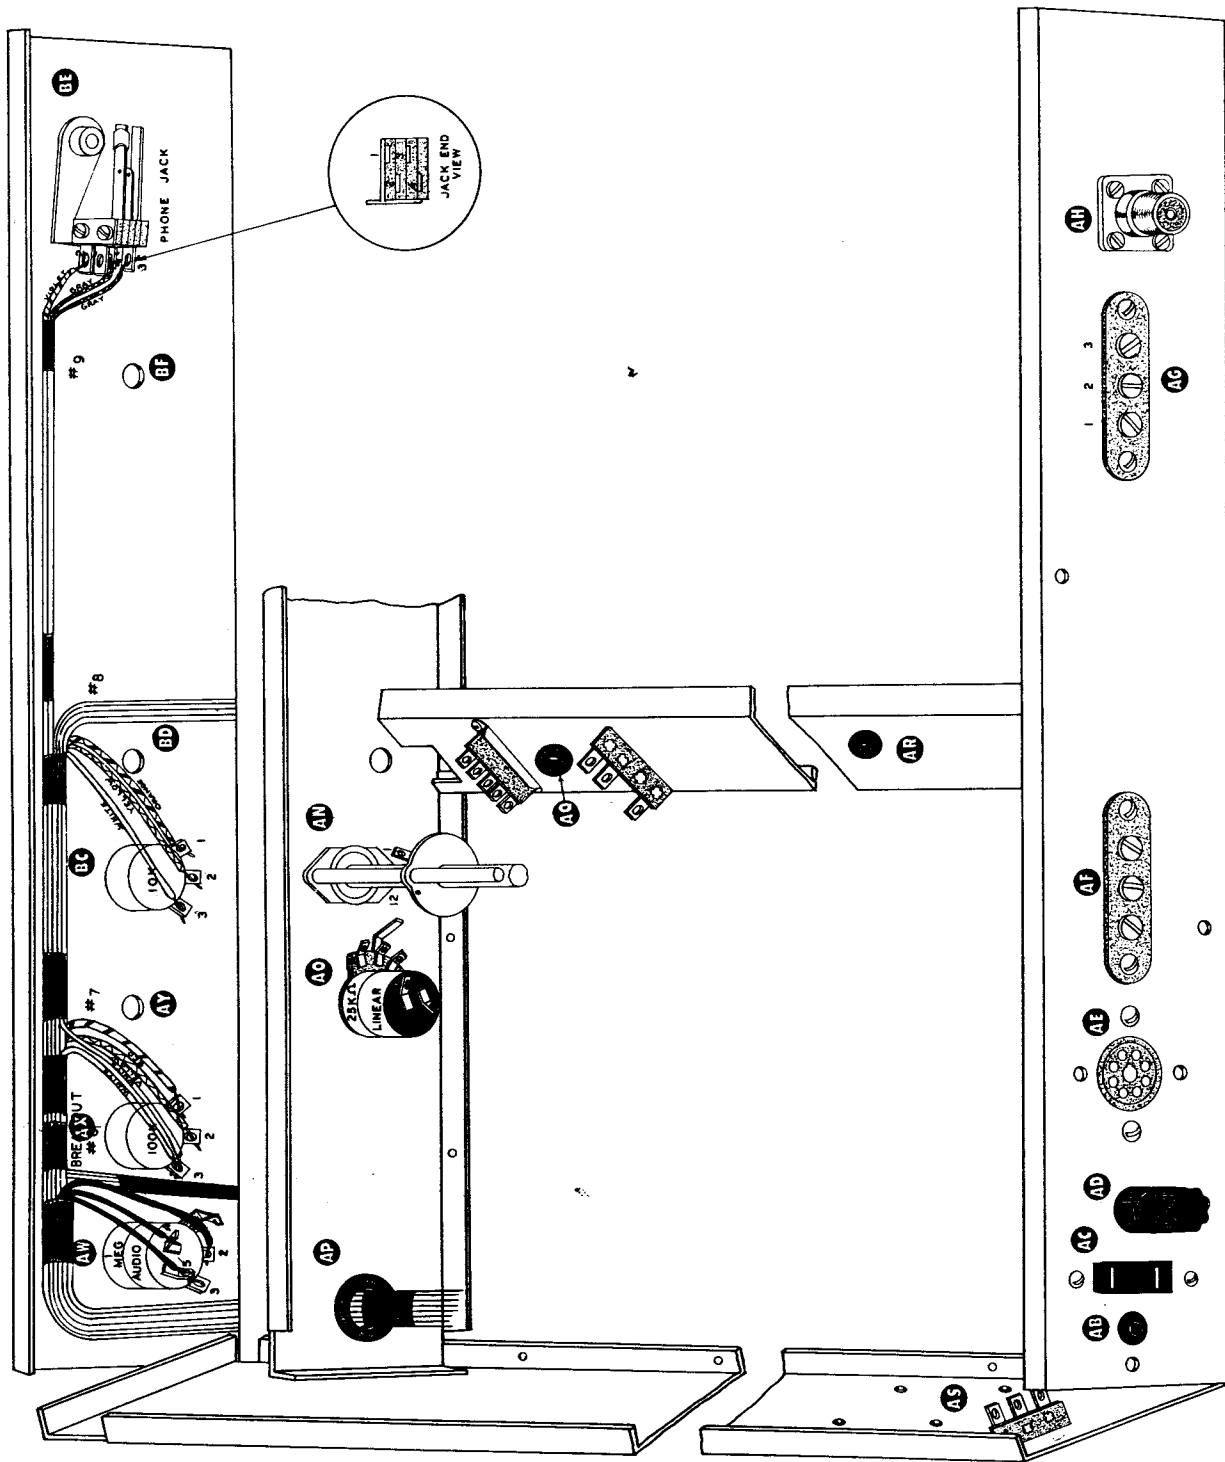

Figure 5
- (✓) Place the main frame on the work bench with the bottom up. The bottom of the frame is readily identified by the triangular metal braces spot welded in each of the four corners. Orient the frame so that the metal partition is running lengthwise of the unit as shown in Figure 5.
- (✓) In hole AC, place the 110 volt 2 prong AC socket; fasten in place with 6-32 hardware. Refer to Figure 5.
- (✓) Install the 3-lug terminal strip (use 6-32 hardware) in hole AF. This strip is installed from the outside as shown in Figure 5 and Pictorial 3.